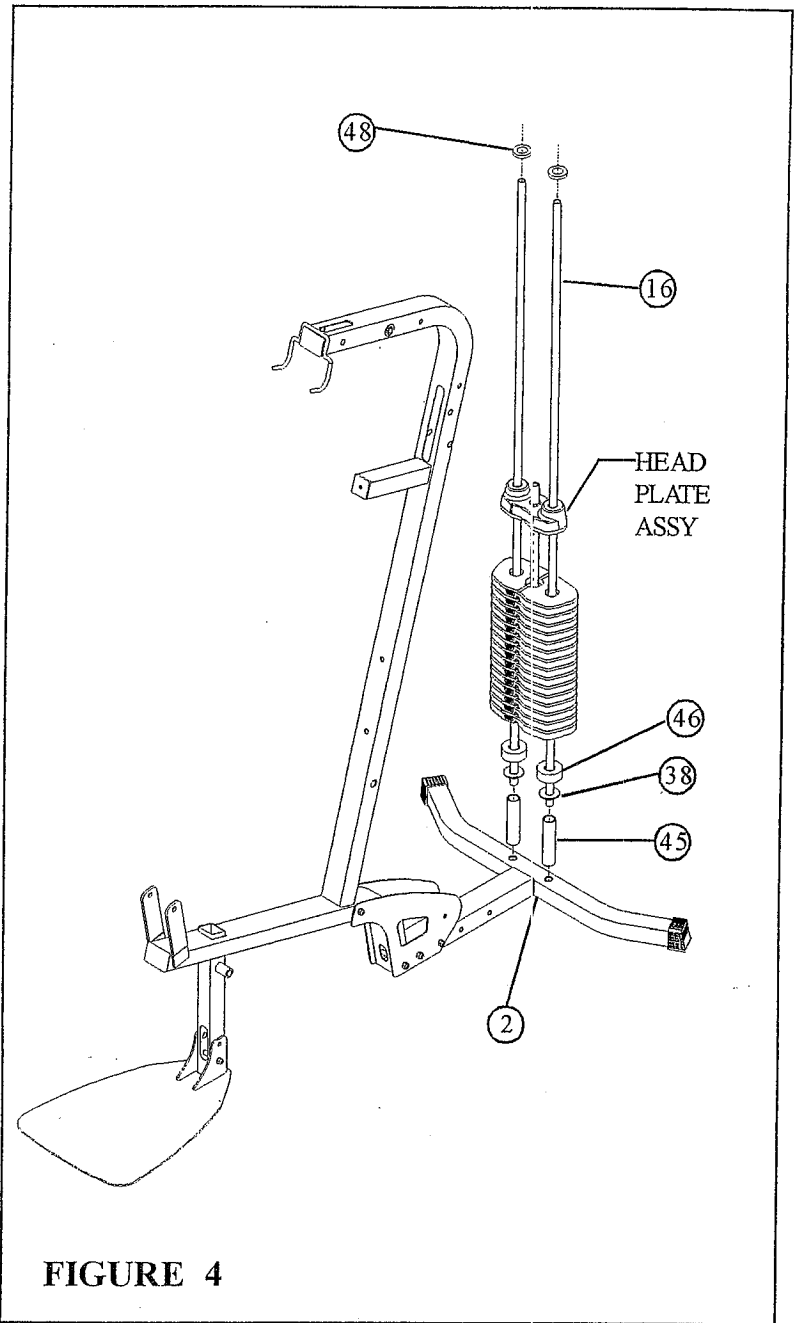

FIGURE 4
- Insert two GUIDE RODS (16) into the BASE (2) as shown on FIGURE 4. (NOTE: Lubricate GUIDE RODS (16) with silicon or teflon spray available at most hardware stores.)
- Slide the following items in order down each GUIDE ROD (16), one WEIGHT STACK SPACER (45), one 3/4" FLAT WASHER (38) and one WEIGHT STACK CUSHION (46)
- Using **EXTREME CARE** slide all fifteen WEIGHT PLATES (22) down the GUIDE RODS (16) onto the WEIGHT STACK CUSHIONS (46). Make sure that the keyholes of the WEIGHT PLATES (22) are all facing the right way.
- Slide the head plate assembly down GUIDE RODS (16) onto the weight stack.
- Slide one SHAFT COLLAR (48) down each GUIDE ROD (16).